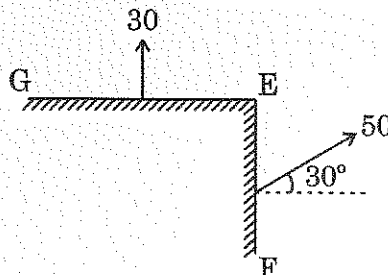

Fig. Q. 16(a)
- (b) A beam of T section shown in Fig. Q. 16(b) is 2.5 m in length and is simply supported at the ends. It carries a load of 3.2 kN inclined at 20° to the vertical and passing through the centroid of the section. If $E = 200$ GPa, Calculate :
- (i) Maximum tensile stress; (3)
- (ii) Maximum compressive stress; (4)
- (iii) Deflection due to the load; and (4)
- (iv) Position of the neutral axis. (4)